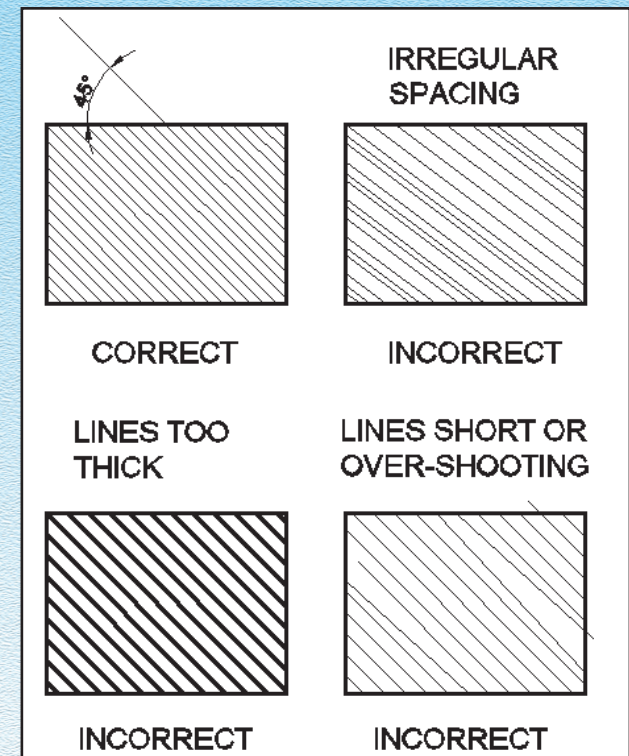

Fig. 5.12 Correct & Incorrect Methods of Hatching
2. Separate areas of a section of the same component shall be hatched in an identical manner. Various ways of hatching are shown in Fig. 5.12. Adopt the correct method for a neat, precise and clear drawing.